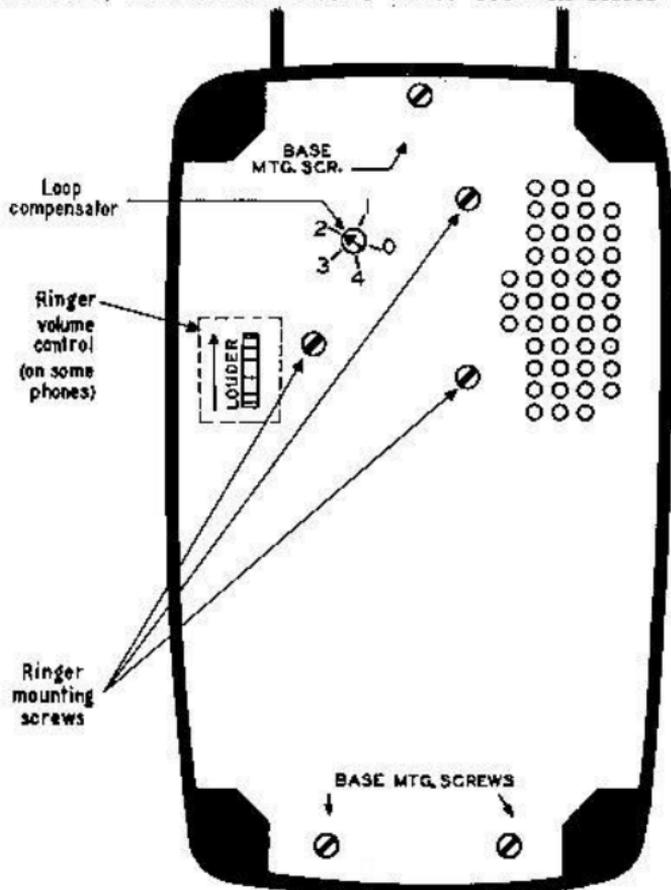

Figure 22.
Call the central office for a ringing test. If the telephone has a straight-line ringer with a loudness control (figure 22), adjust the control to suit the subscriber.
The "loop compensator" is a *rheostat-and-switch* accessible from the bottom of the telephone (figure 22). It can be set with the tip of a small screwdriver. As the arrow is turned counterclockwise from 0 to 4, the *rheostat* inserts 0Ω to 400Ω in series with the loop.
16.1 **Loudness adjustment.** When so ordered, straight-line type 80 telephones have a ringer volume control (figure 22). The installer either requests the test board to ring back or dials a reverting-call switch, and, while the telephone rings, adjusts the control for loudness to suit the subscriber.
18.1 Loosen the three base-mounting screws shown in figure 22. Do *not* loosen any other screws on baseplate.